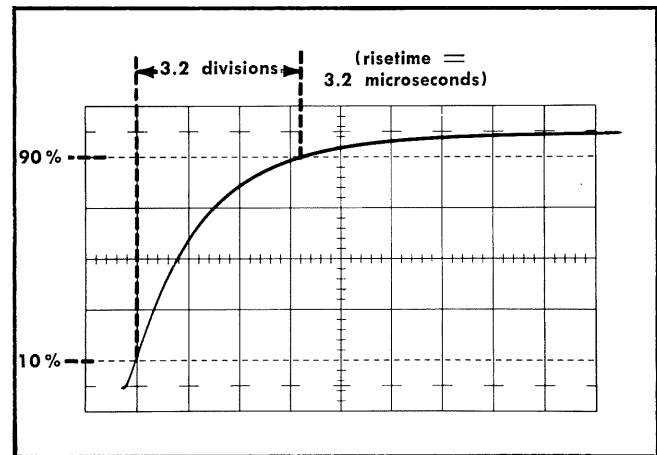

Fig. 12. Measuring CALIBRATOR output signal risetime. Sweep rate, 1 μ Sec/division.
e. Check risetime. Should be less than 5 microseconds as shown by less than 5 horizontal divisions between the 10 and 90% points on the test oscilloscope display (see Fig. 12).